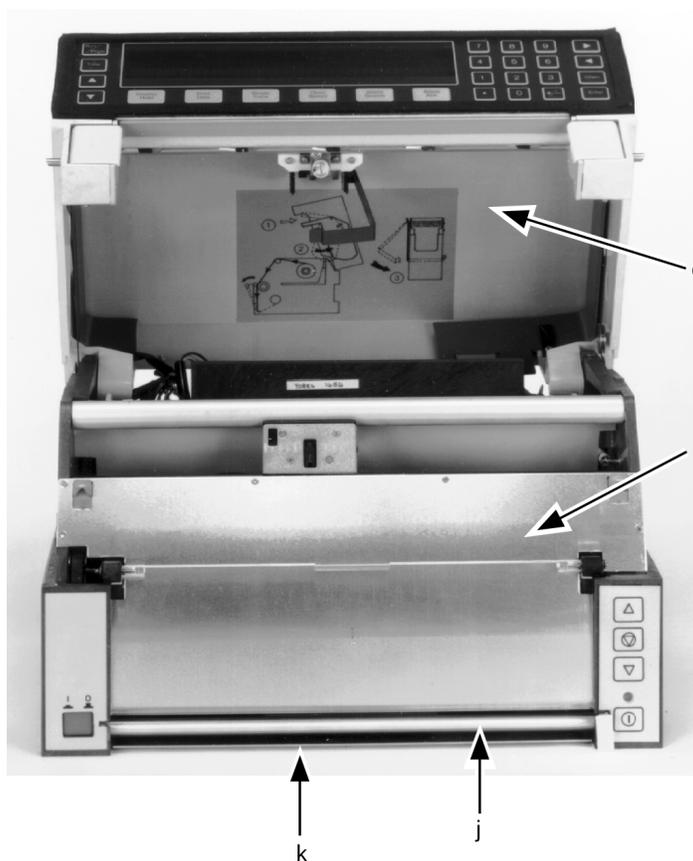

Figure 5.12.3d
- i Any one of the front plate fixing screws (figure 5.12.3d)
- j Lower chart guide (figure 5.12.3d)
- k Chassis base plate (figure 5.12.3d)